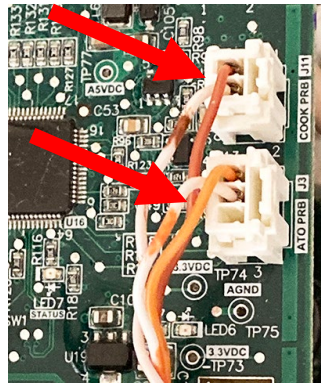

Figure 55
58. Reinsert the ATO and cook probes into the control box and re-connect to the SIB board (see Figure 55).